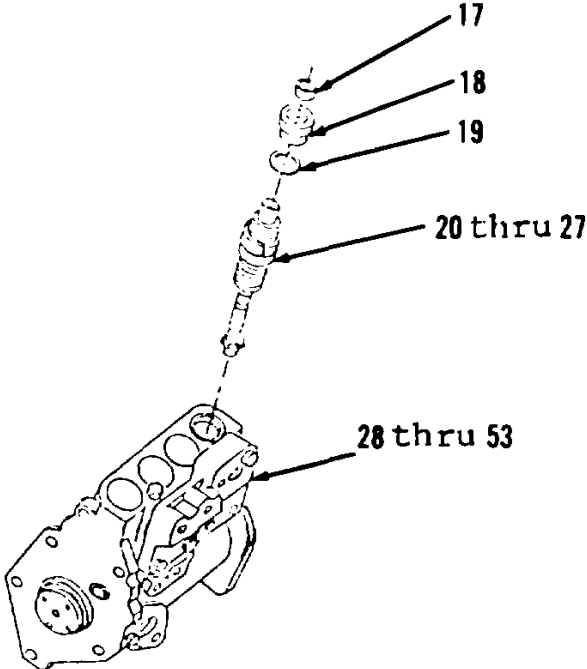

Figure 3-88.
- 3. Remove and discard four felt washers (17) from top of fuel injection pump (Figure 3-88).
- 4. Using wrench, remove four bushings (18).